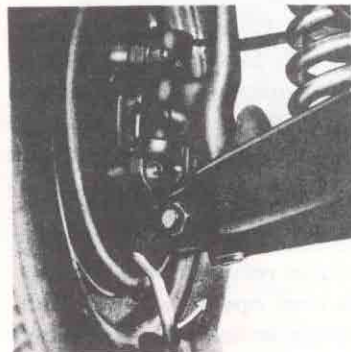

Fig. 59—Adjusting Brakes
2. Through hole in flange plate, insert screw driver or similar tool and engage it in teeth of adjusting wheel (fig. 59).